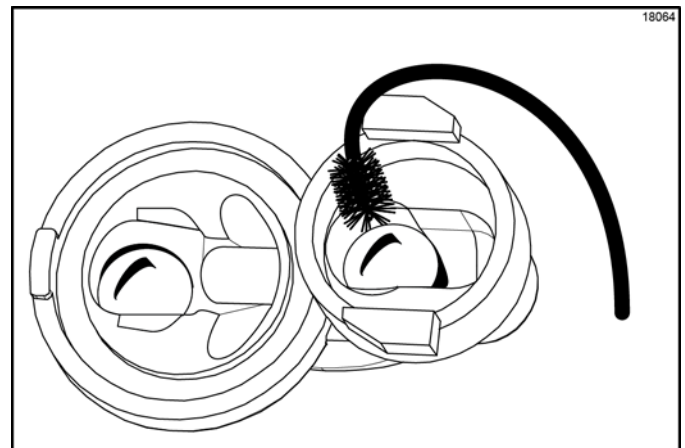

Figure 6-103
5. Insert the black shielded brush into the top side of the outlet valve. Scrub this area, specifically around the steel ball. (See Figure 6-103.)